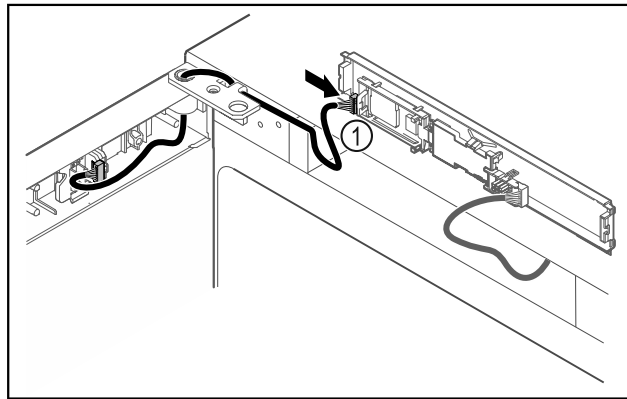

Fig. 40
- ▶ Connect the plug *Fig. 40 (1)* to the circuit board.